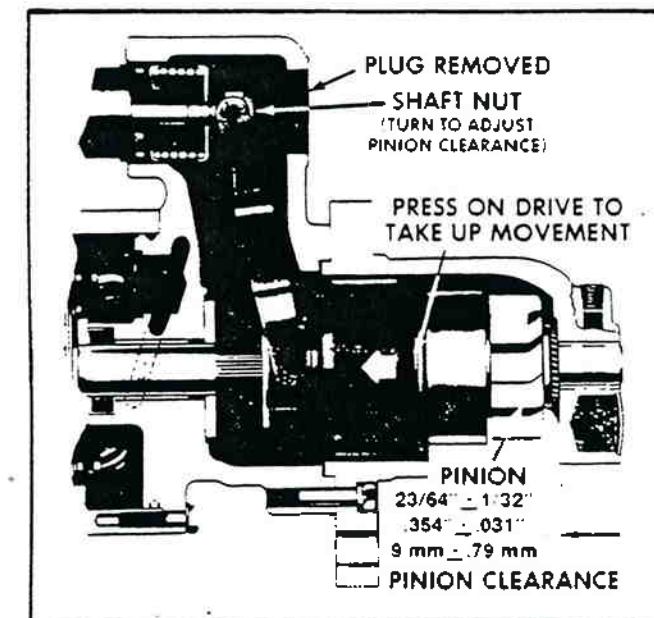

Figure 7-46. Checking Pinion Clearance (42MT).
6. Adjust clearance by removing plug and turning shaft nut (shown in figure 7-46). Although typical specifications are shown, always refer to 1M-188 for specifications applying to specific models.
4. Measure the distance between drive and housing (figure 7-46).
5. Adjust clearance by removing plug and turning shaft nut (figure 7-46). Although typical specifications are shown, always refer to 1M-188 for specifications applying to specific models.